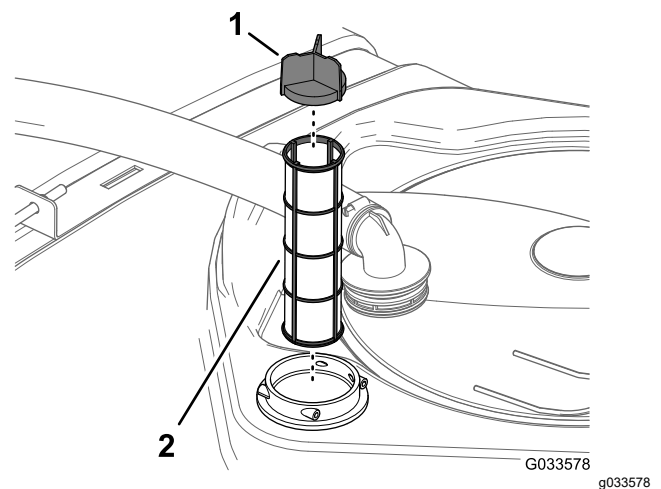

Figure 43
4. Pull the suction strainer out of the filter housing in the tank (Figure 43).